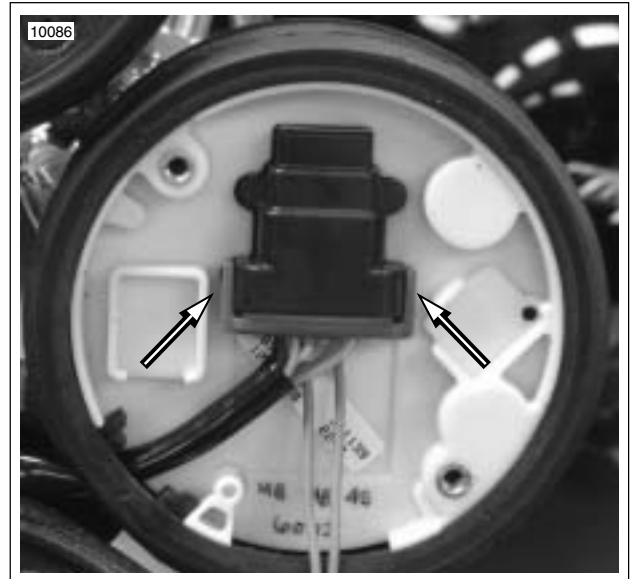

Figure 2-16. Speedometer Connector [39]
1. See Figure 2-16. Bend back the external latches slightly and remove connector [39].